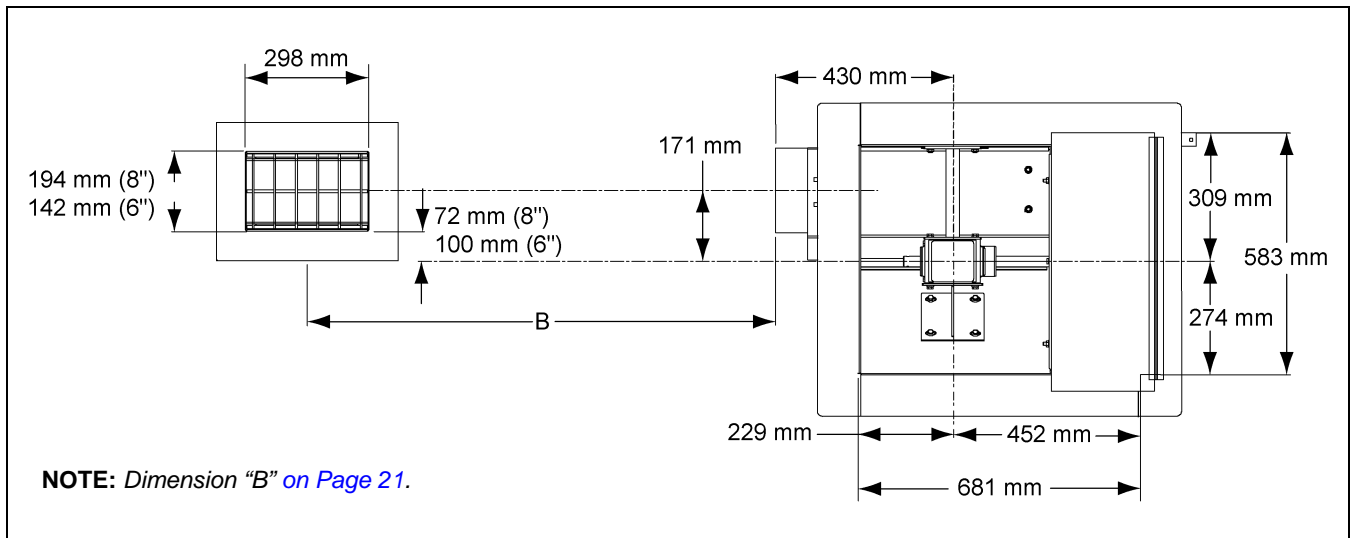
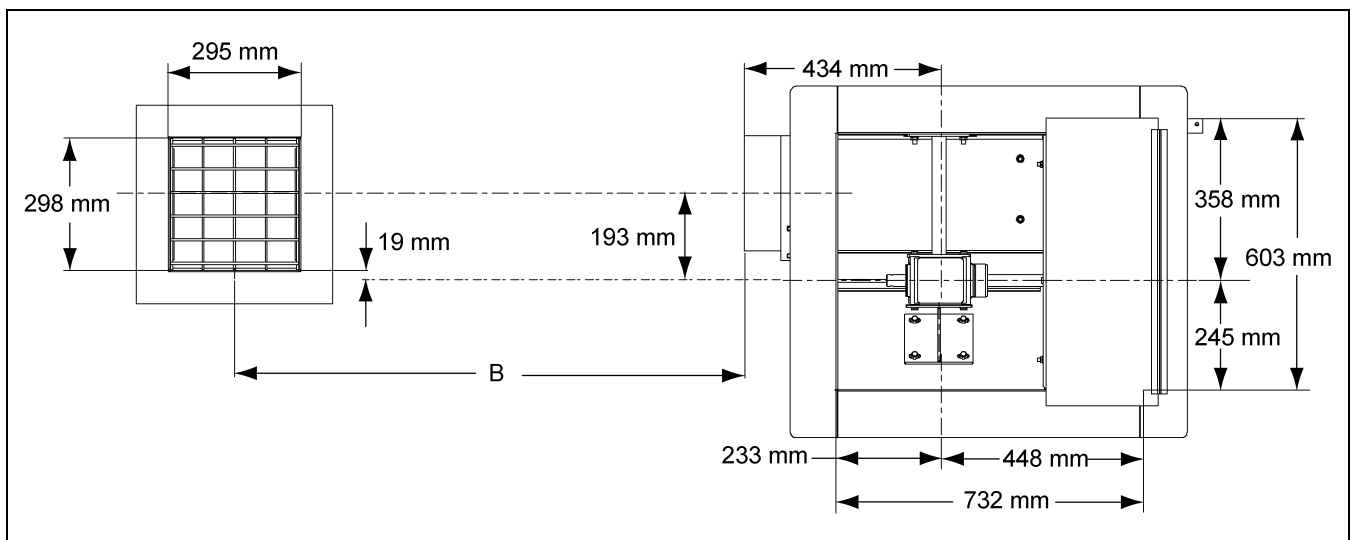

Figure 4B 6" and 8" Floor Well Cut-Outs
Figure 4C 10" Floor Well Cut-Outs
1. Locate the center of the bin and make a cut-out for the center well. (*See Figure 4B or Figure 4C.*)
1. Cut openings in the bin floor for the intermediate wells. *(See Figure 4B and Figure 4C on Page 20.)*